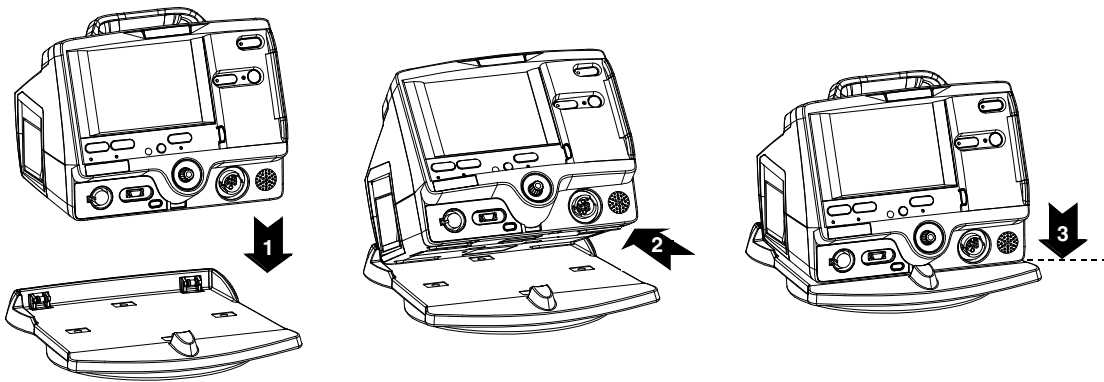

Figure G-1 Docking Station
- 1 Hold the LIFEPAK 20e defibrillator/monitor by the handle over the docking station (refer to Figure G-1, arrow 1).
- 2 Tilt the LIFEPAK 20e defibrillator/monitor backward into the docking station, aligning slots in the rear of the defibrillator to rollers on the docking (refer to Figure G-1, arrow 2).
- 3 Align recess in lower front panel of the LIFEPAK 20e defibrillator/monitor with the front roller on the docking station and press down on the front of the LIFEPAK 20e defibrillator/monitor until you hear a click (refer to Figure G-1, arrow 3).